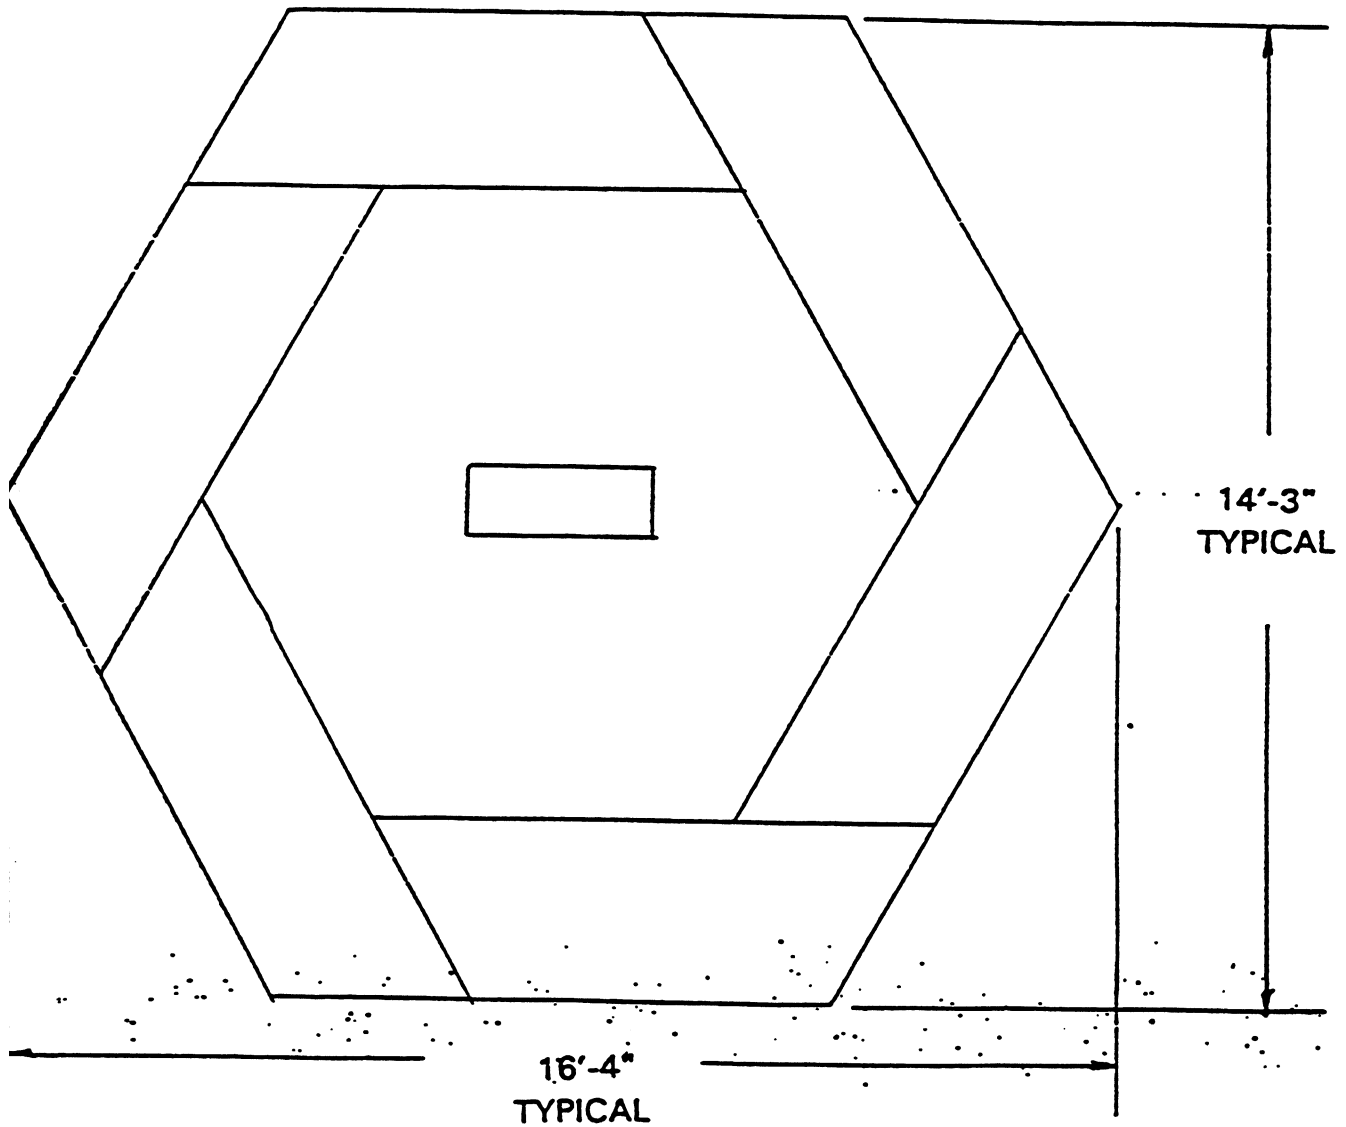

FIGURE 2.1-1
- 2.2 If using rubber pads, place rubber pads on cleared area to form a hexagon area. See figure 2.1-1.